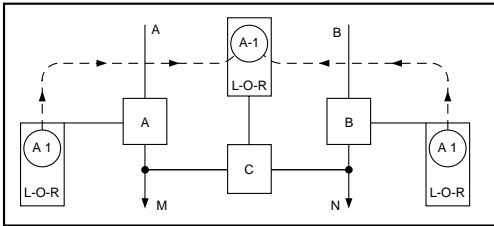

Figure 4
**Sample Application—4 (Main-Tie-Main)** (See Figure 4)